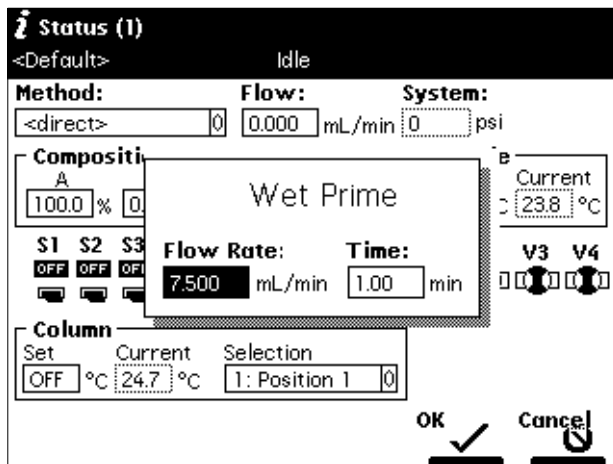

Figure 2-12 Wet Prime Dialog Box
3. Select the **Wet Prime** option, then press **Enter**. The Wet Prime dialog box appears (Figure 2-12).
4. Select **Wet Prime**, then press **Enter**. The Wet Prime dialog box appears (Figure 2-12).